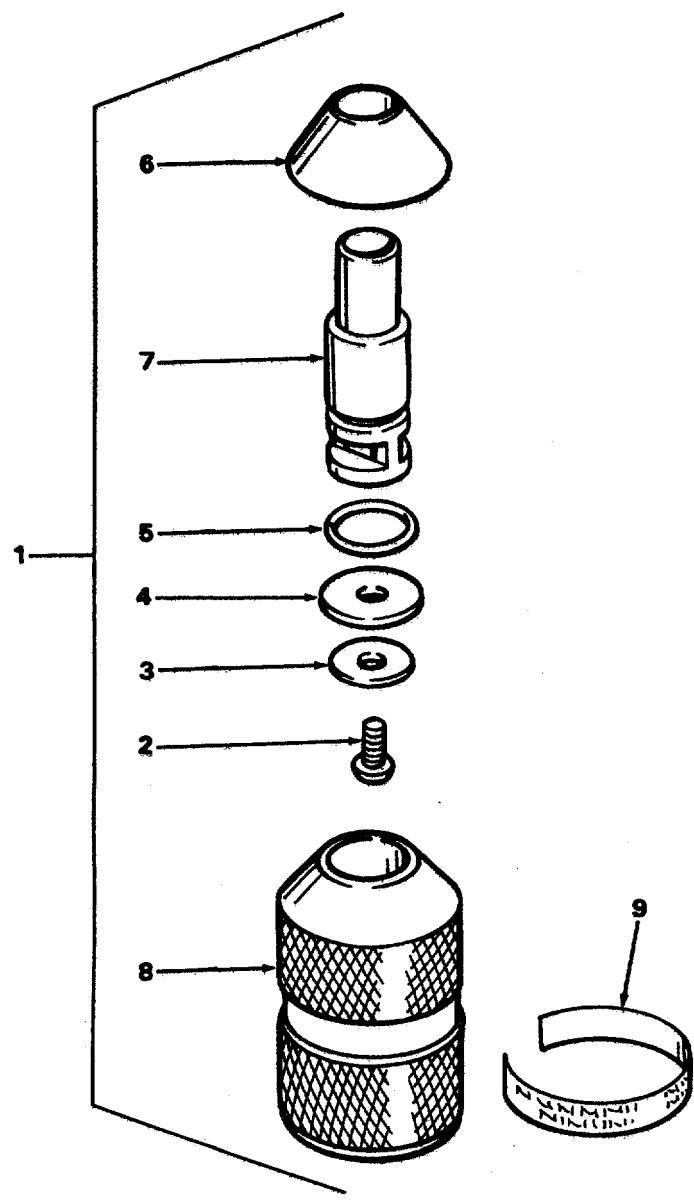

Figure 1. Inflator valve
(1) ITEM NO	(2) SMR CODE	(3) FSCM	(4) PART NUMBER	(5) DESCRIPTION AND USABLE ON CODES (UOC)	(6) QTY
**GROUP 01 VALVE ASSEMBLY, INFLATOR****FIG. 1 INFLATOR VALVE**